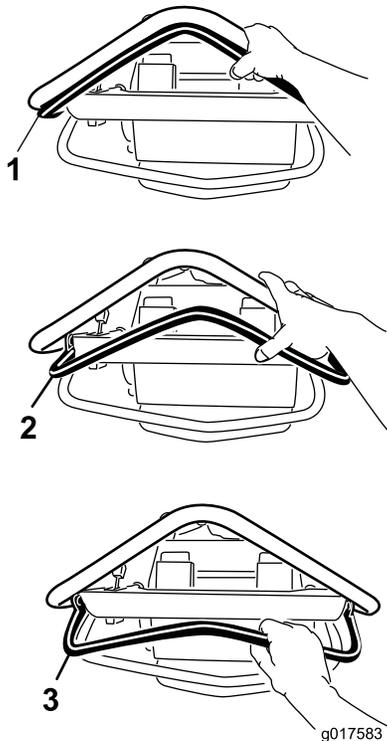

Figure 11
- To move forward, press the control lever forward (Figure 11). The further forward you push it, the faster the machine will travel.
- To move in reverse, pull the control lever rearward (Figure 11). The further forward you pull it, the faster the machine will travel.
- To stop, release the control lever (Figure 11).